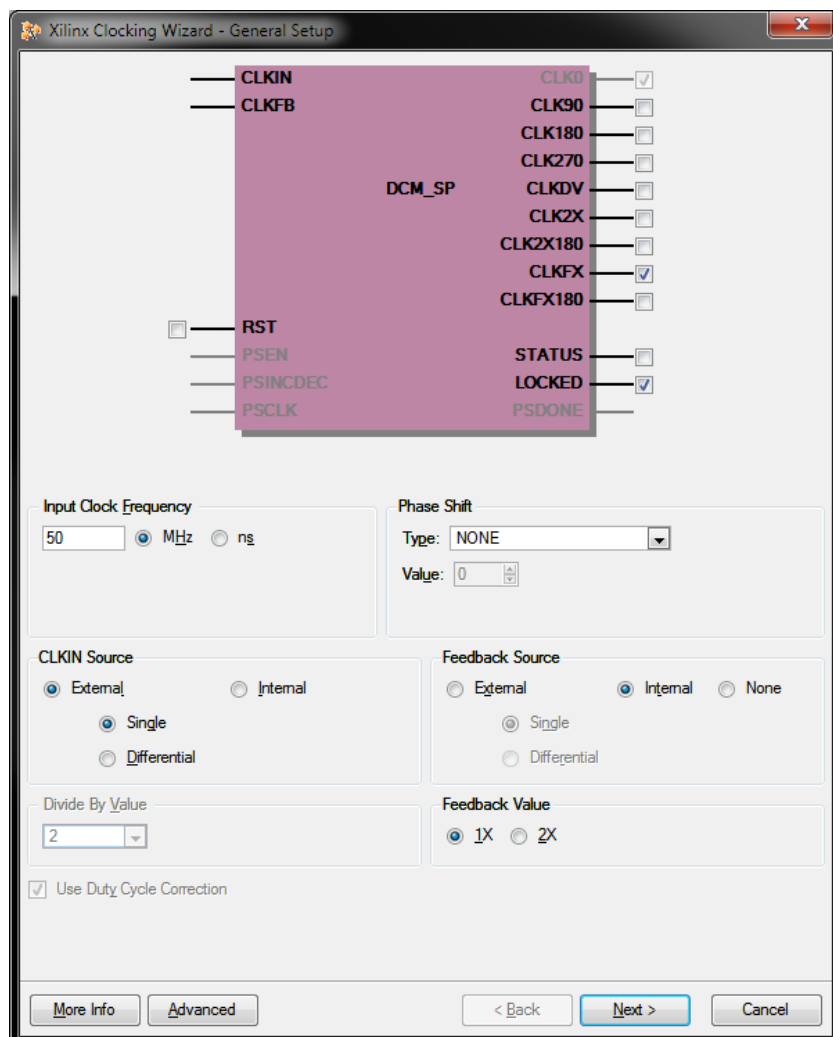

FIGURE 7 - 10 MHZ CLOCK SETUP
- 2.5. Click "OK" on the window that pops up. For the next screen, configure as shown below in Figure 7.